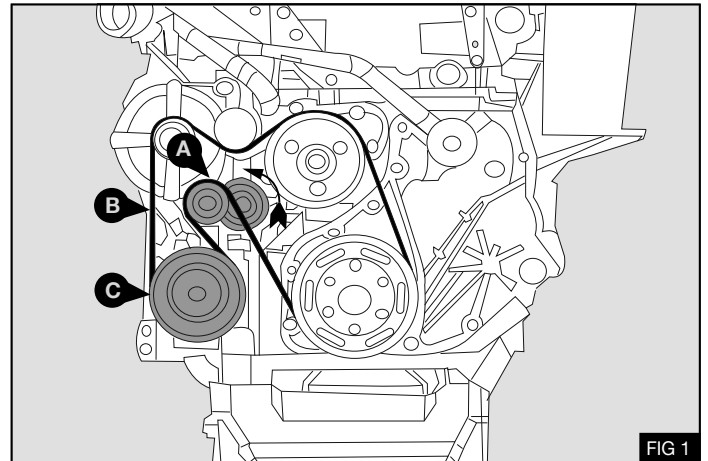

FIG 1
3. Using a suitable tool rotate the automatic belt tensioner pulley **(A)** Anti-clockwise - Fig.1
**NB :** If the belt routing is different from the diagram shown in Fig.1 report your findings to your Kit/System supplier before proceeding.